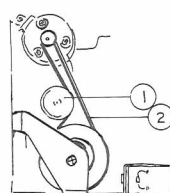

Fig. 14
1) Replace the take-up lever arm (Fig. 14 ①).
3) Clean or replace the capstan belt (Fig. 14 ②).